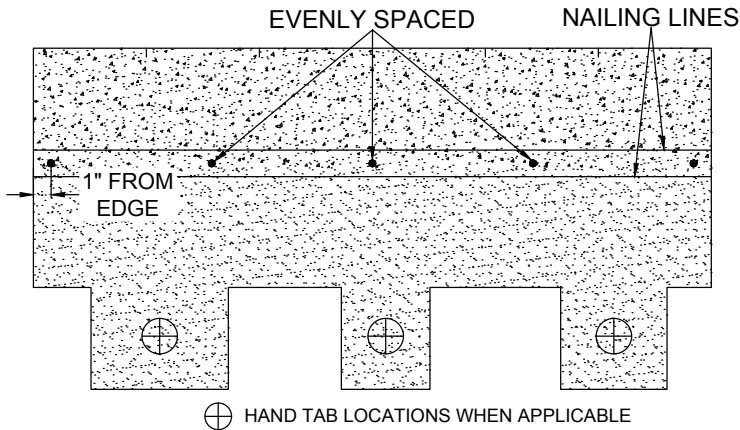

Figure 11 - Windsor, 5-Nail Fastening Pattern and Hand-Tab Locations
Windsor Nailing Pattern: Use five (5) fasteners for each shingle, evenly spaced across the shingle, and placed within the high nailing area designated by the parallel nailing lines. Ensure the outside fasteners are approximately 1" (25 mm) from each edge. (See Figure 11)